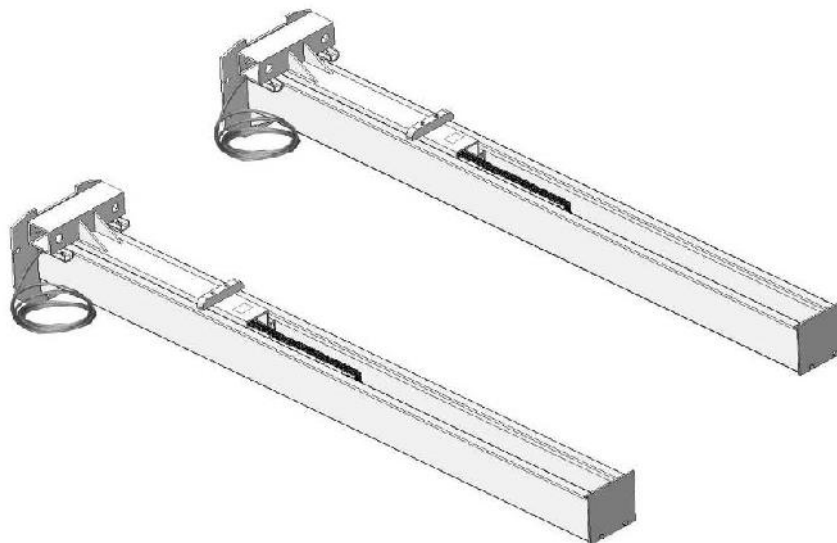

Fig. 14
2. Push the carriages to the bottom of the columns (**See Fig. 14 below**).